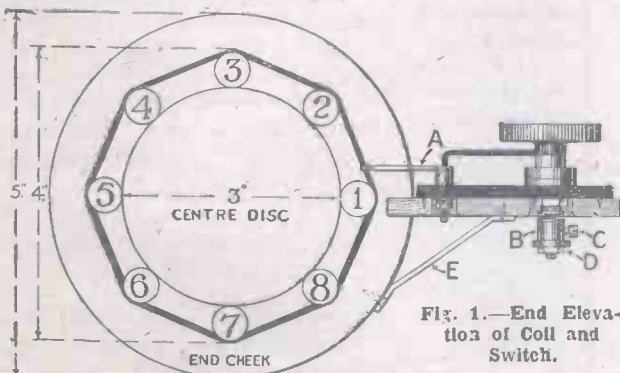

Fig. 1.—End Elevation of Coil and Switch.
The baseboard to which these panels are fixed is shown in Figs. 1 and 4. The necessary clearances in the wood, which is 1/4 in. thick, are also indicated. A brass strip,
Fig. 1 (E), forms a bracket to secure the panel in position. In Fig. 1, at A, one of the tapping leads is shown. At B is a small condenser bush, drilled and tapped through one side to take a 4-B.A. screw (C). The nut D is used to screw the collar, or bush, in its right position, and the screw C is then tightened up.